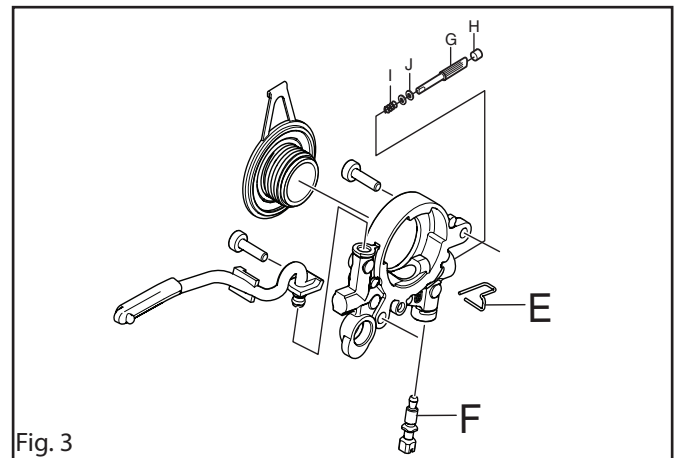

Fig. 3
8. Use a pair of pliers and push on the pump piston (G) so that the cover plug (H) and pump piston can be removed. See figure 3.
9. Use a pair of pliers and pull out the spring (I) and 2 washers (J). See figure 3.
1. Put the spring (I), 2 washers (J) on pump piston (G) and fit in the pump housing. Lubricate all components with chain oil. See figure 3.
3. Fit the cover plug (H). See figure 3.
4. Fit the clip (E). See figure 3.